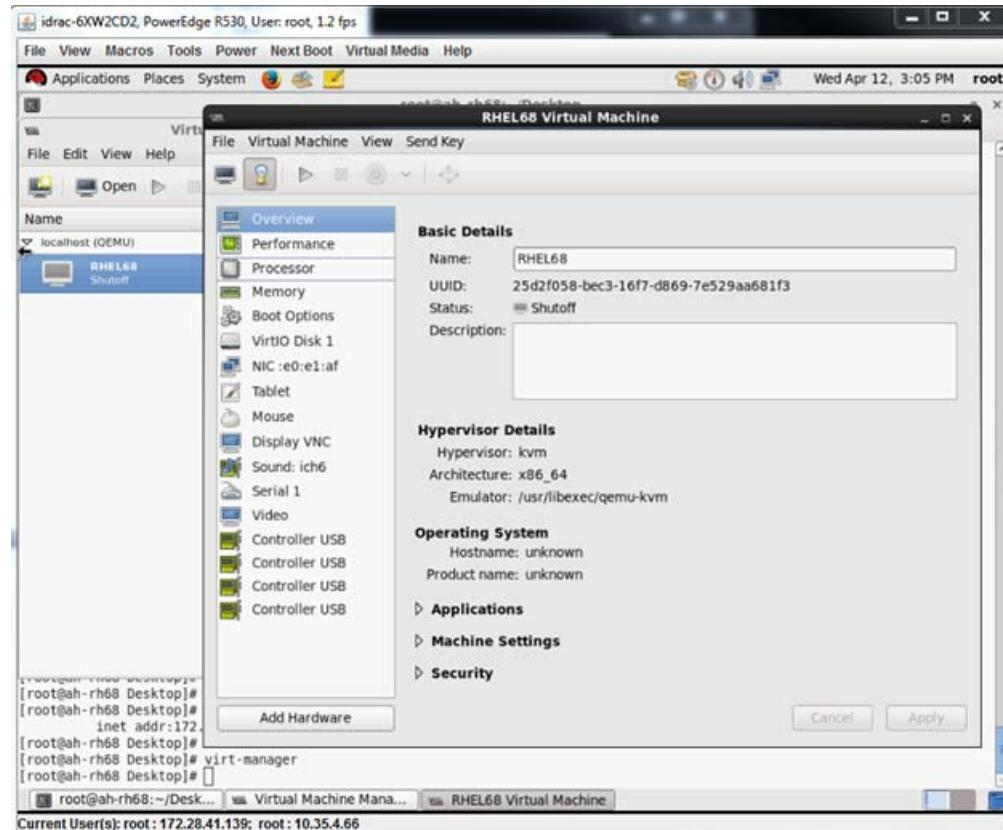

Figure 11-13. RHEL68 Virtual Machine
- a. In the Virtual Machine dialog box (Figure 11-13), click **Add Hardware**.